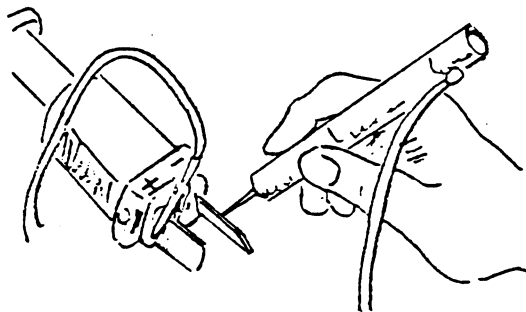

FIGURE 3
- (b) If the circuit in Figure 2 is complete, reverse test light leads as shown in Figure 3. CIRCUIT SHOULD NOT BE COMPLETE. If circuit is complete, check DC cord for a "short" between the two wires. More probably, one or both diodes have "shorted". Refer to "Fuse Link Blowing" part (b) for continuity test of diodes.
- (c) If (a) Figure 2 and (b) Figure 3 check good, assume the capacitor is shorted. Remove one wire from a capacitor terminal and place continuity tester clip to one terminal and probe to other. If circuit is complete, capacitor is "shorted" and must be replaced.
**REFER TO FIGURE 3**